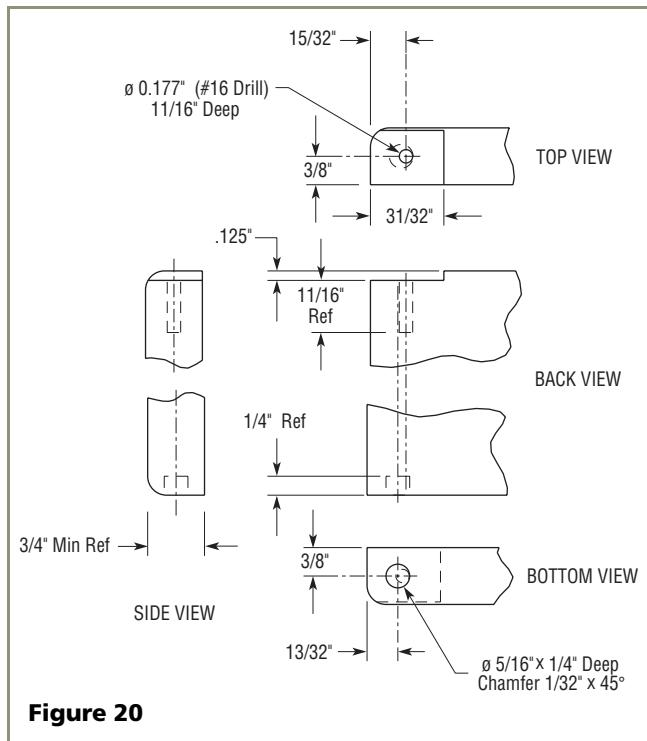

Figure 20
2. Create a relief (**Figure 19**) for pivot plate by cutting notch in top corner of overlay panel. Refer to **Figure 20** for exact specifications.
3. Drill hole for upper door hinge (top of panel) (see **Figure 20**, Top View).
4. Drill hole for lower door hinge (see **Figure 20**, Bottom View).